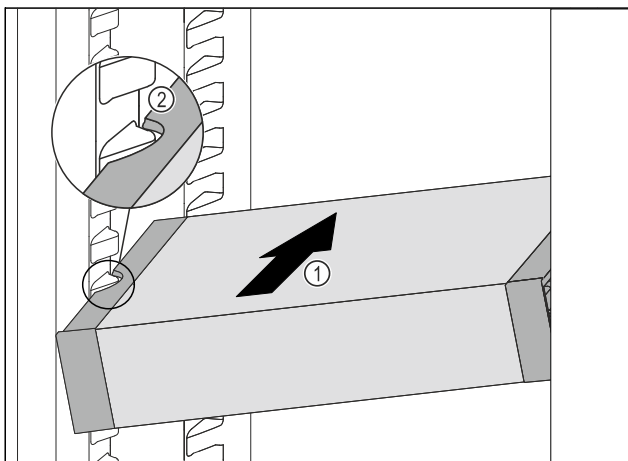

Fig. 36
- ▶ Insert the VarioSafe into the refrigerator compartment at an angle *Fig. 36 (1)* until the recesses in the side *Fig. 36 (2)* of the VarioSafe are at the level of the support rib in the refrigerator compartment.